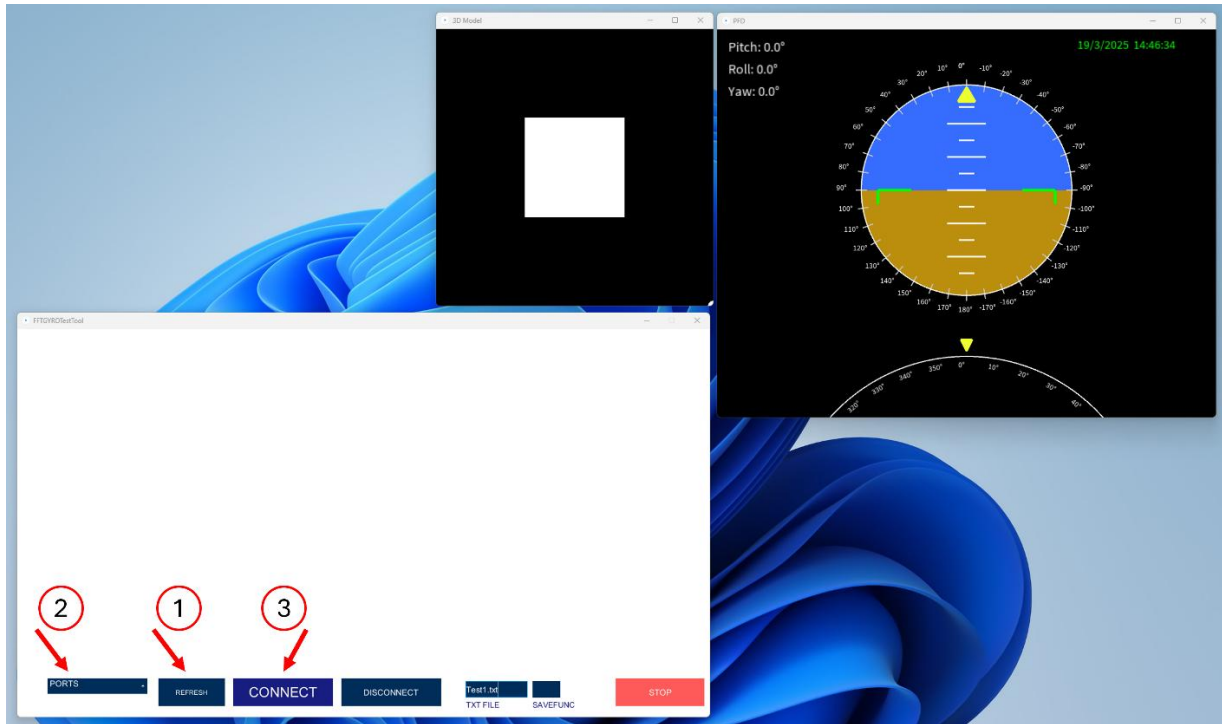

Figure 18. Three windows are displayed. Steps to connect the FFT GYRO: Click “REFRESH”, select the port, click on “CONNECT”.
6. Three windows will be displayed. Locate the Main Control Window, it should be totally blank, as in figure 18.